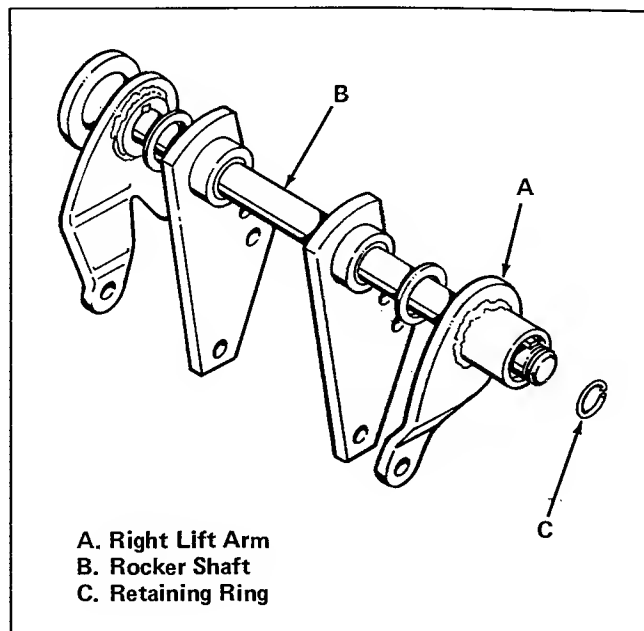

Figure 2. Right Lift Arm Removal
3. To remove the right lift arm (item A, figure 2) push right lift arm toward center of rocker shaft (item B) to expose retaining ring (item C).